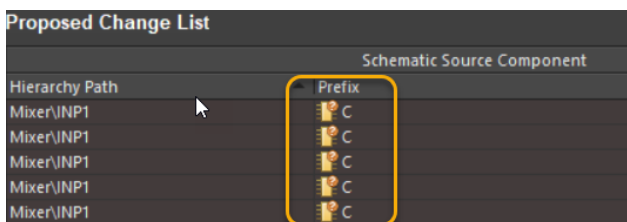

Figure 3. Undesignated Component
6. Click **Reset All**. Undesignated components have a small red question mark in the prefix column, Figure 3.